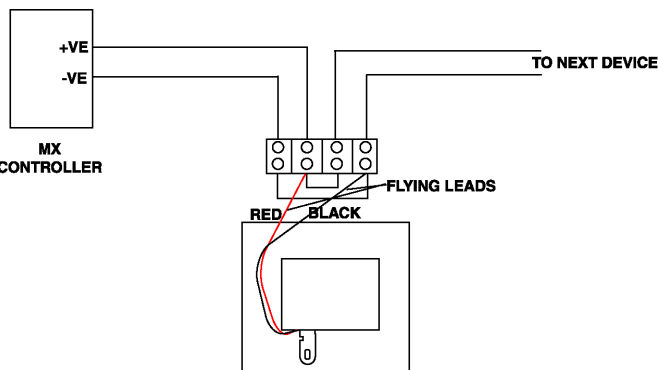

Fig. 5 CP820/CP820M - Simplified Wiring Diagram
Cables are to be selected in accordance with Publication 17A-02-D and the requirements of the current issue of BS5839. Cabling should be connected as shown in Fig. 5 ensuring correct polarity. Couplers are to be used with MICC cable.
- 3) All conductors to be free of earths. For typical wiring configuration, see Fig. 5.